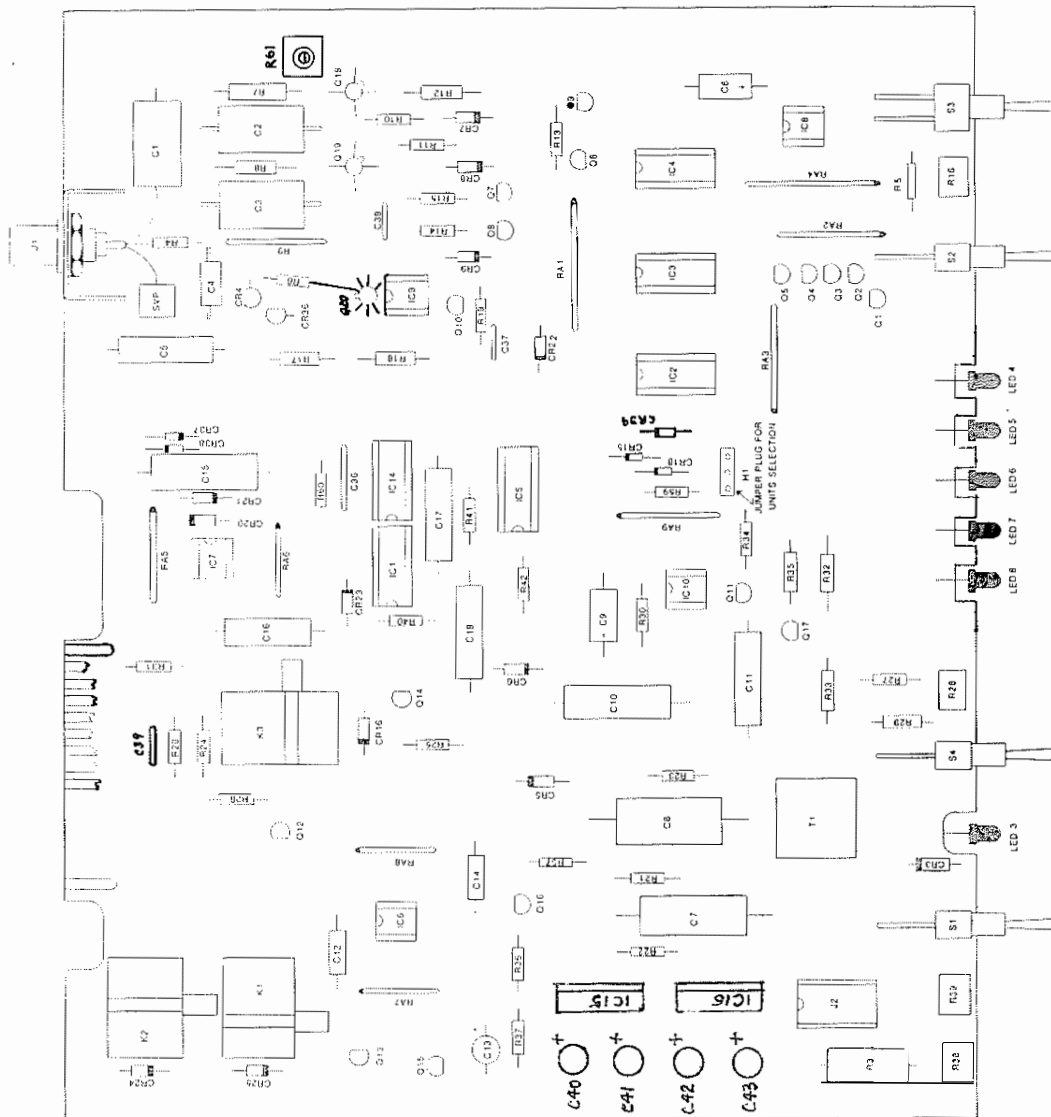

FIG 6-1 COMPONENT LOCATION MAIN BOARD
Whenever a problem persists after elimination of possible external causes by removing all cables but the power cable, and thus appears to be in the controller, the power supplies should be checked first. Use a standard DVM to check the labeled points on Fig. 6-1 and 6-2 for the following outputs with respect to ground:
6.5 Filament Turn on and Emission Problems (Refer to Fig. 5-4 and Fig. 6-1)
6.6 Electrometer Circuit (Refer to Fig. 5-5 and Fig. 6-1)
6.7 Autoranging Problems (Refer to Fig. 5-6 and Fig. 6-1)
6.8 Ion Gauge Process Control (Refer to Fig. 5-7 and Fig. 6-1)
7.1 Replacement and Repair Order Instructions (Refer to Figs. 6-1 and 6-2)
7.2 Main Circuit Board Parts List (Refer to Fig. 6-1)